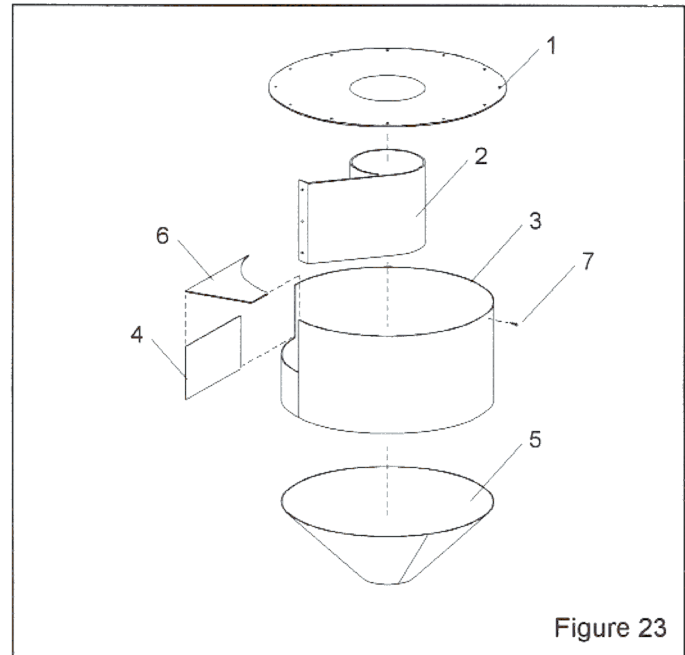

Figure 23
9.10 Rubber Liners Option, Figure 23